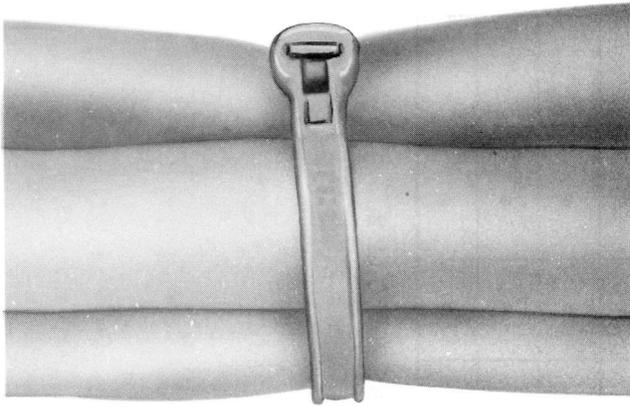

Fig. 10—KS-20986 Cable Tie
6.05 The C (MD) cable ties and D (MD) cable ties are plastic straps having ratchet buckle and tapered point ends. Detents allow a range of adjustments and permit easy release and reuse. C cable ties are used as straps for the B adhesive cable tie. The C and D cable ties have been replaced by the KS-20986, List 4 cable ties (Fig. 10). The KS-20986, List 4 cable ties are used as straps for the E adhesive cable ties.